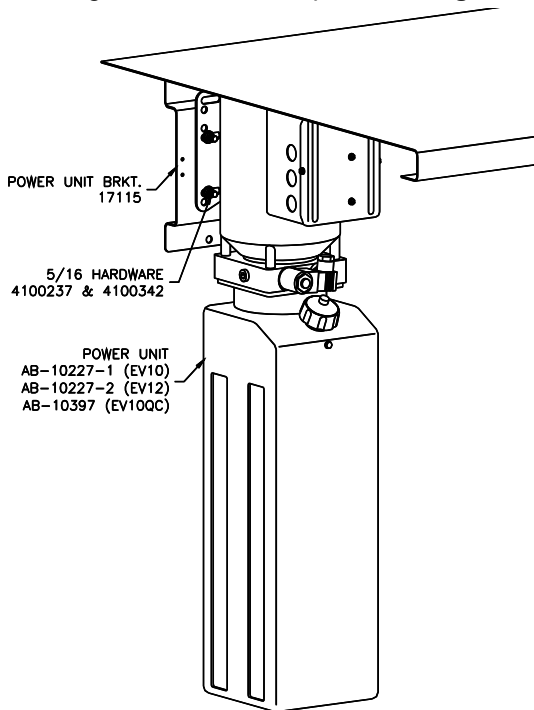

Fig 3 – Power Unit Mounting
- 2) Attach the Power Unit to the Power Unit Bracket using the four (4) 5/16 x 1/2" Lg. flanged bolts and nuts provided, **Fig 3**.